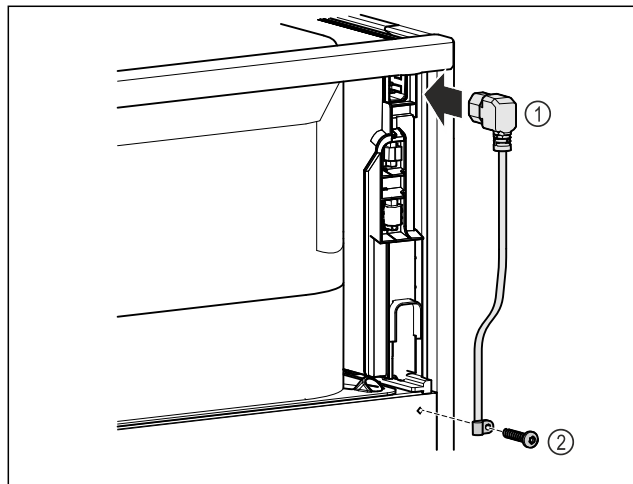

Fig. 11
- ▶ IEC socket of the power cable Fig. 11 (1) on the rear side of the appliance.
- ▶ Install mains tension relief. Fig. 11 (2)